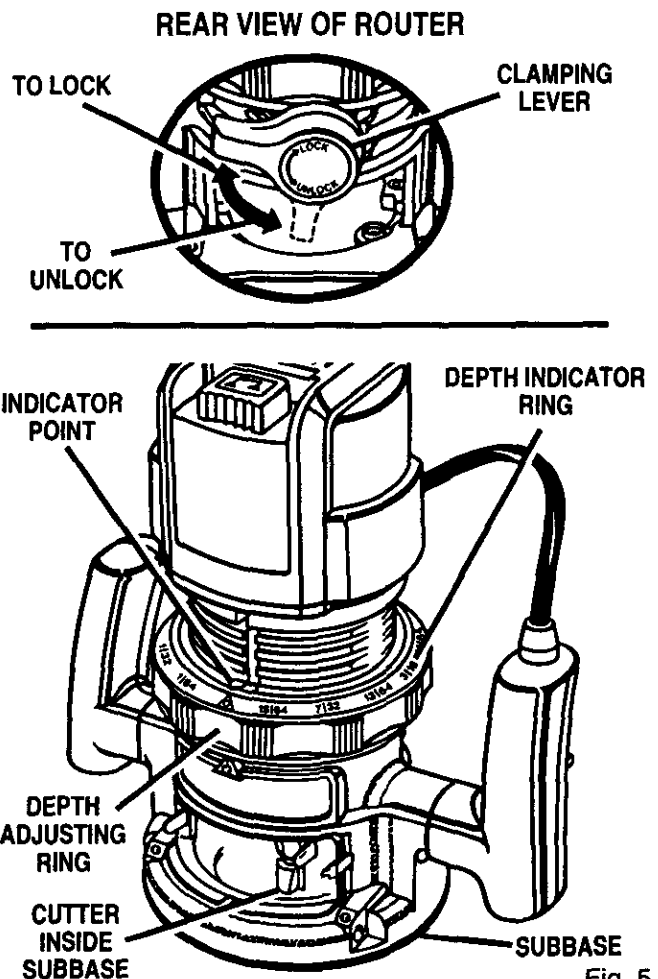
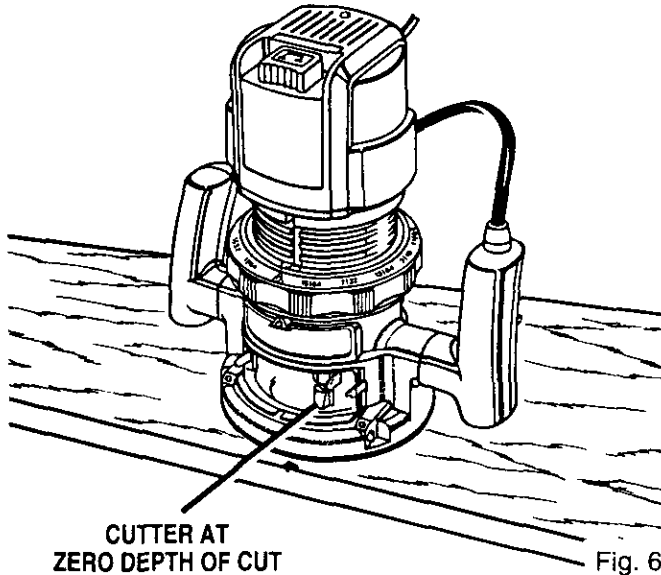

Fig. 5
Fig. 6
See Figures 5, 6, 7, and 8.
Place your router on a flat surface, unlock clamping lever, and turn depth adjusting ring until cutter is inside subbase. See Figure 5.
- Turn the depth adjusting ring until tip of cutter touches flat surface (zero depth of cut). See Figure 6. Next turn depth indicator ring until the zero lines up with the indicator point on front of motor housing. See Figure 5.